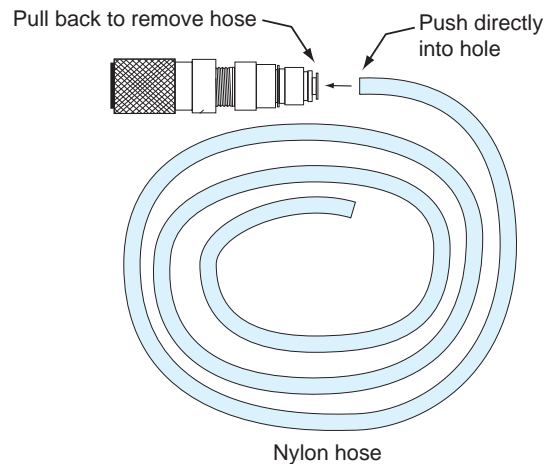

Figure 44. Drain Pan Adapter/Pump Primer
The ON-BOARD pump is a three chamber diaphragm pump. Typically, this is a self priming pump but it will not prime when under pressure. Filling the T-TECH machine requires pumping under pressure. The Drain Pan Adapter (Figure 44) can be used to allow the T-TECH to prime itself. Prime the ON-BOARD pump according to the following procedure steps.
3. Attach the Drain Pan Adapter/Pump Primer (Figure 44) to the SERVICE PORT on the control panel.